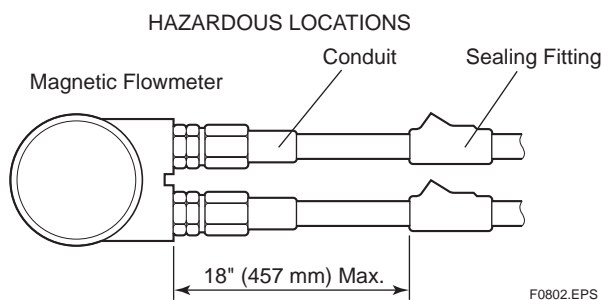

Figure 8.2.1 Conduit Wiring
- In hazardous locations, wiring to be in conduit as shown in Figure 8.2.1.
(3) Operation